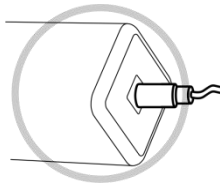
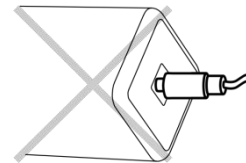

Figure 8B
Figure 8C
- To make sure Sensor Probe works properly show as below pictures, please make sure insert the Remove Sensor Probe tightly “Figure 8B” and there is no any gap allowed “Figure 8C” between 3.5mm jack and housing.